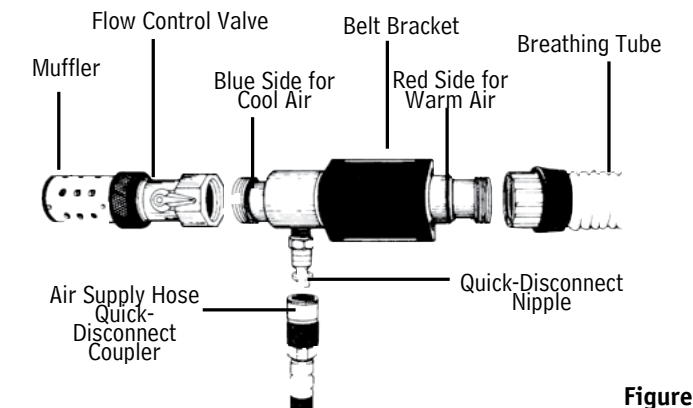

Figure 1
6. Turn flow control valve to adjust the flow and temperature of incoming air (**Figure 1**).